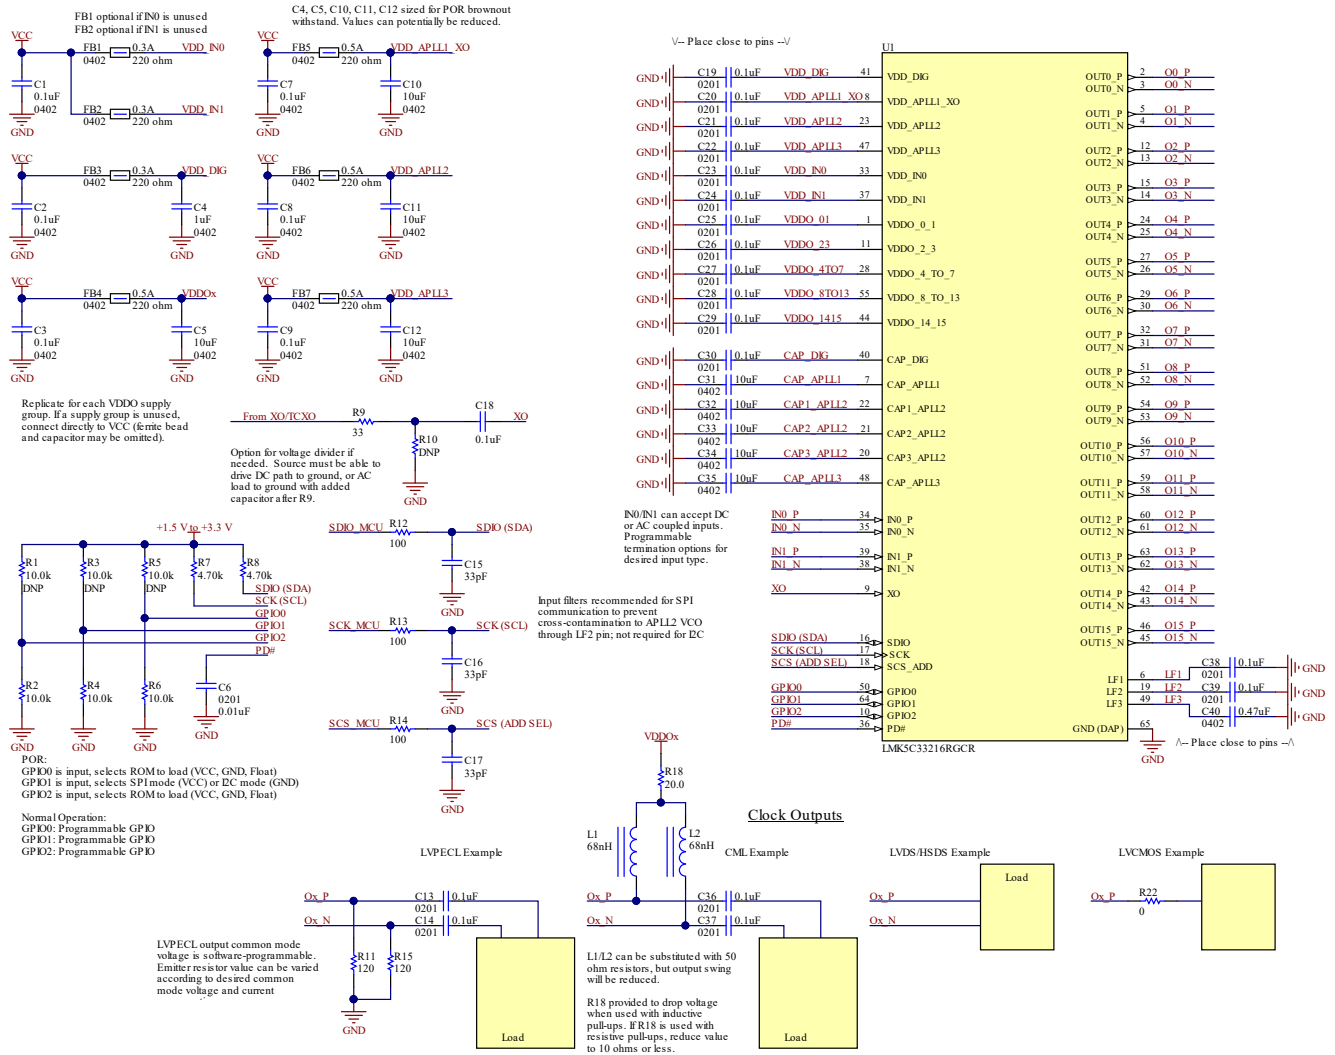

图 10-3. Reference Schematic Example
- Reference inputs: Follow the LVCMOS or differential clock input interface examples in 图 10-3 or 节 9.3.3.
- Clock output Interfacing: Follow the single-ended or differential clock output interface examples in 图 10-3 or 节 9.3.16.
- Power all the VDD pins with proper supply decoupling and bypassing connect as shown in 图 10-3.